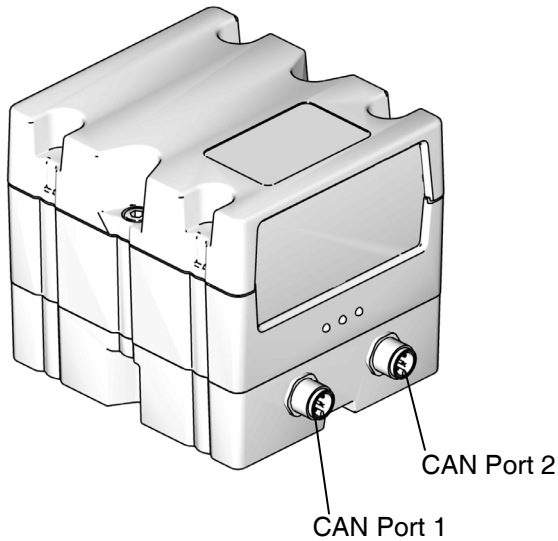

FIG. 36: CGM CAN Connections
10. Connect the other end of the CAN cable to either CAN port 1 or 2 on the CGM. See FIG. 36. It can be connected to either port.